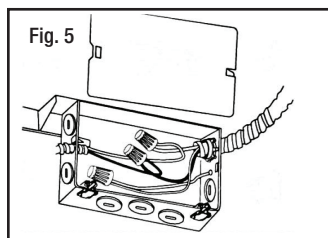

Fig. 5
**Metal conduit:** Remove appropriate round knock-out(s) and connect conduit to wiring box with proper connector(s) (not included) (Fig. 5).
**Step 3.** Connect supply wires to wires in fixture wiring box with proper size wire nuts (not included) or push wires into “push-in” connectors (included on select models). Be sure to cover all bare current carrying conductors. Connect white to white; black to black; and green or bare copper wire (from electrical service) to bare copper wire (in wiring box)(Fig. 5).